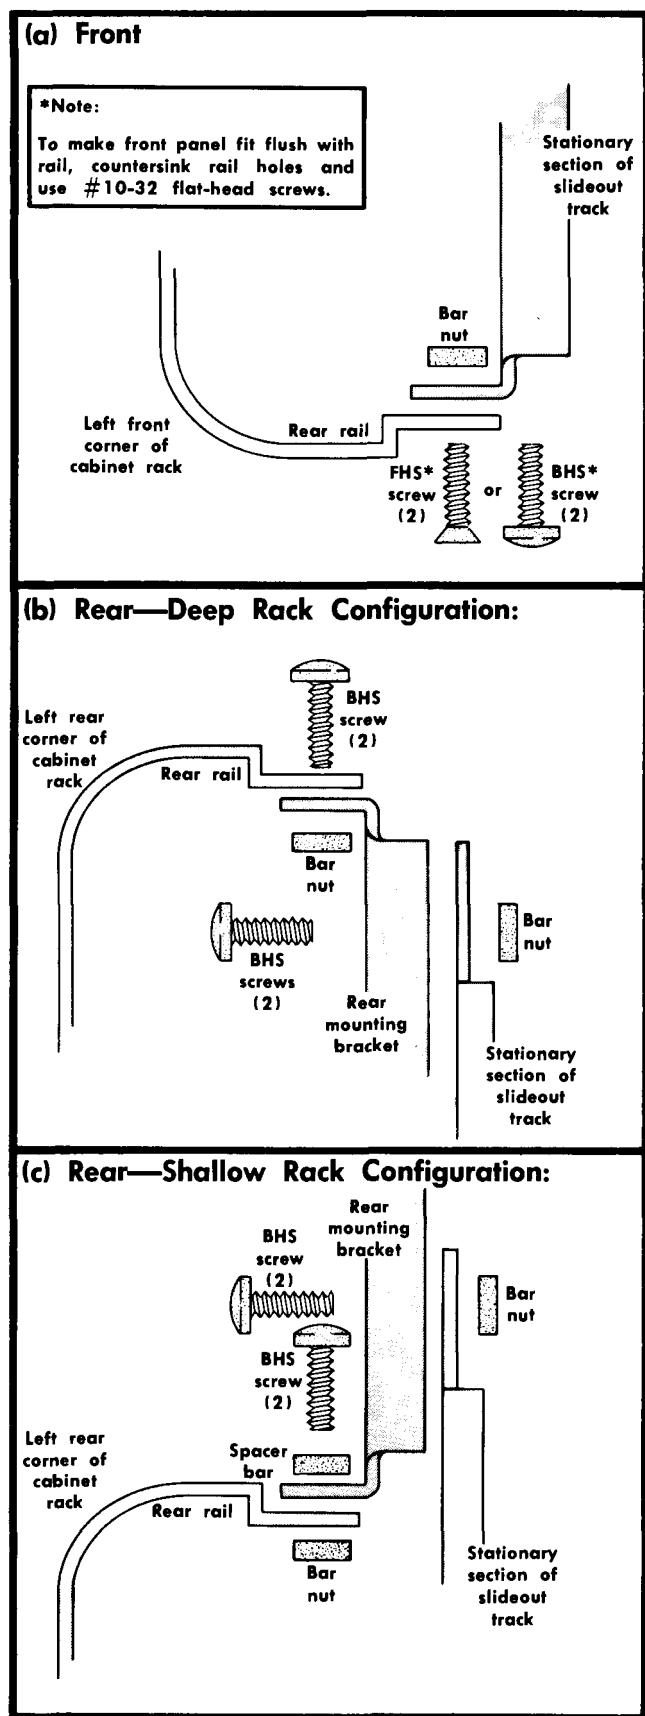
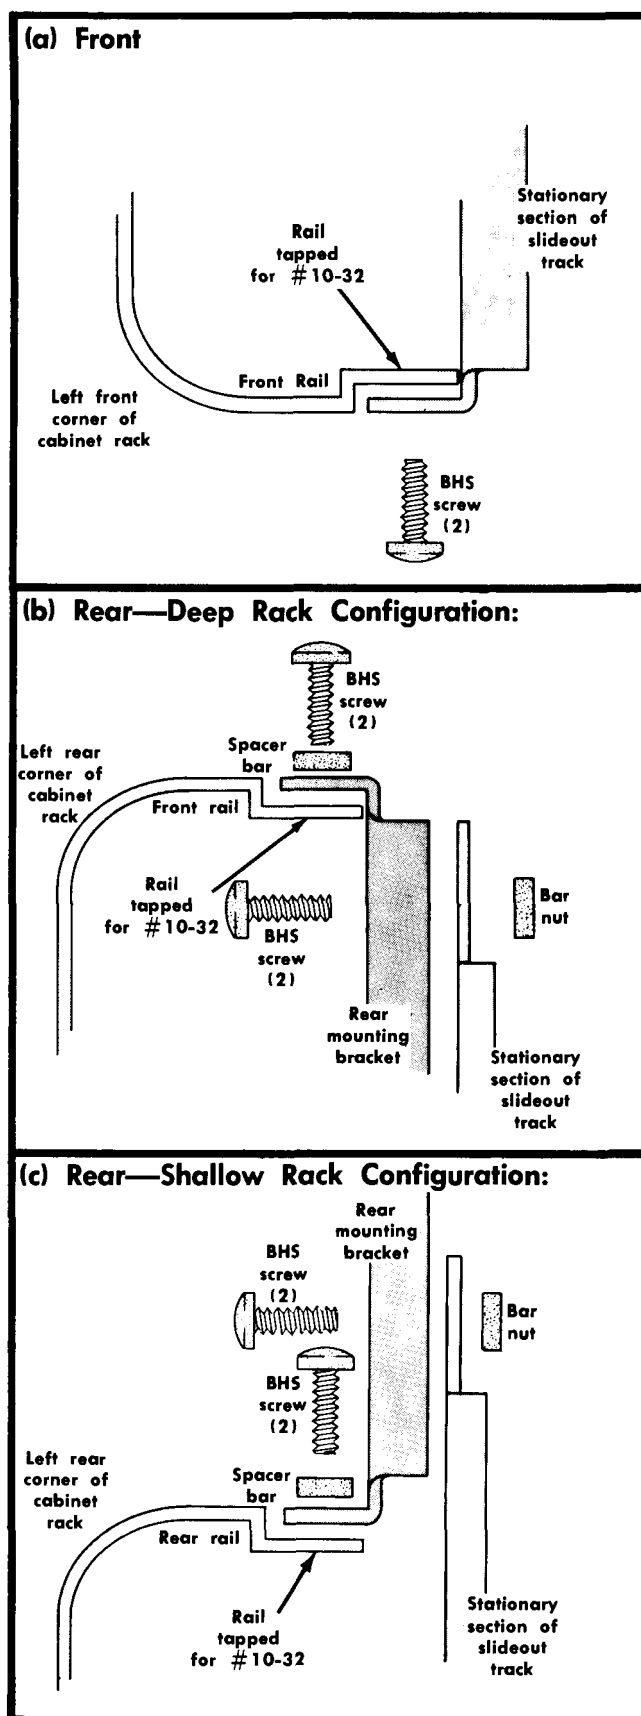

Fig. 7-4. Normal mounting position of the left stationary section for the minimum panel thickness.
Fig. 7-5. Normal mounting position of the left stationary section if the mounting holes are tapped for 10-32 screws.
**Maximum Panel Thickness.** When the flanges of the stationary sections are mounted **in front** of the rails with BHS screws as shown in Fig. 7-5, the maximum effective panel thickness of approximately  $\frac{1}{4}$  inch is obtained. If the tracks are to be mounted in this position, the minimum width of the opening between the two front rails is  $17\frac{3}{4}$  inches. This is the normal mounting position if the mounting holes in the front rails are tapped for 10-32 screws. If the width of the opening between the rear rails is also  $17\frac{3}{4}$  inches, or more, depth of the rack between front and rear rails may be from  $10\frac{1}{2}$  to 26 inches.
The mounting position shown in Fig. 7-5 for use with tapped mounting holes may also be used with untapped holes by placing bar nuts behind the front rails in a manner similar to the method shown in Fig. 7-4.
2a. If the front flanges of the stationary section are to be mounted **behind** the front rails, mount each stationary section as shown in Fig. 7-4 for the left track.
2b. If the front flanges of the stationary sections are to be mounted **in front** of the front rails, mount each section as shown in Fig. 7-5 for the left track.